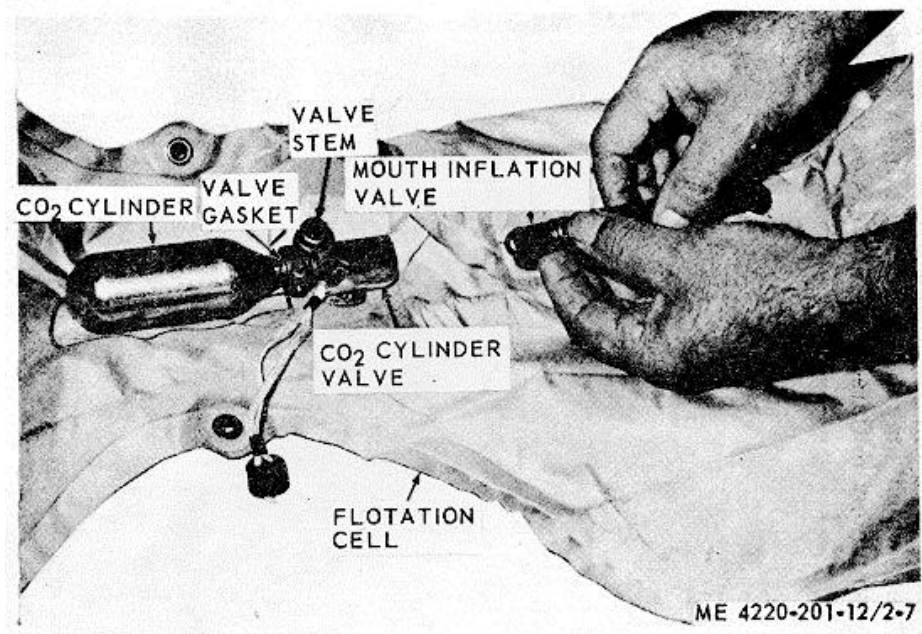
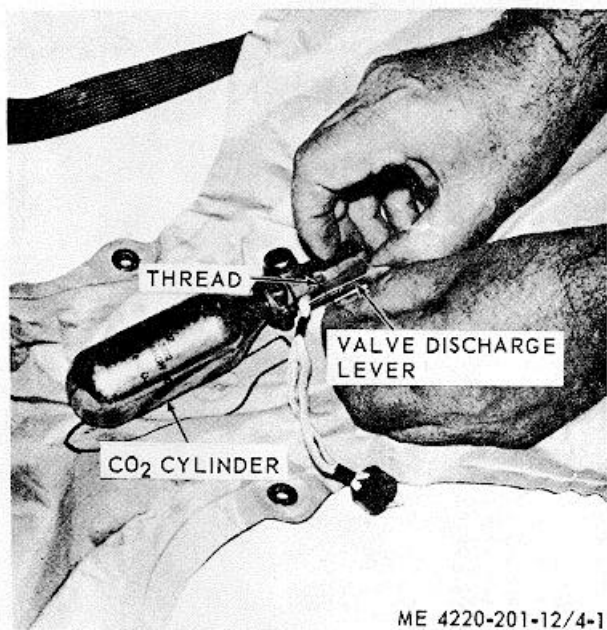

Figure 2-7. Mouth inflation valve.
Figure 4-1. Securing the valve discharge lever to the valve head.
(2) When necessary, additional inflation can be effected by opening the mouth inflation valve (fig. 2-7) and blowing air by mouth.
- (1) Depress the mouth inflation valve (fig. 2-7) and roll the flotation cell toward the mouth inflation valve.
- (2) Apply a vacuum to the depressed mouth inflation valve.
Inspect life preservers in service prior to use and every 90 or 120 days thereafter. IF the preserver flotation cells (fig. 2-7) are four years of age or older inspect the preserver every 90 days; if the cells are less than four years old inspect the preserver every 120 days. At least once yearly, inflate a percentage of preservers undergoing inspection with CO₂ to insure proper functioning of the CO₂ inflation system. Do not inflate the same preserver with CO₂ more than once each year since repeated CO₂ inflation may cause leaks in the cell fabric.
a. Attach the mechanical inflation system to the mouth inflation valve (fig. 2-7). Be sure the CO₂ valve discharge lever (fig. 4-1) is in operating position. Install an empty CO₂ cylinder in the inflator to prevent leakage.
d. Remove the cylinder and deflate the cells after they have passed the inflation test. Check the cylinder valve for proper operation and make sure gaskets (fig. 2-7) are installed. Return the valve discharge lever (fig. 4-1) to the closed position.
(1) For cylinder valve assemblies (fig. 2-7) having no set screw to secure the CO₂ cylinder, apply thread sealant to cylinder threads after they have been engaged from one to two full turns. After applying the sealant, hand-tighten the cylinders and remove all excess sealant.
(2) When a CO₂ cylinder is replaced, secure the valve discharge lever (fig. 4-1) to the valve
(4) Wipe the mouth inflation valve (fig. 2-7) clean, and carefully apply powdered graphite at the valve threads and seat.
(5) Apply powdered graphite to cylinder valves (fig. 2-7) that do not operate freely.
d. Make a safety tie on the valve discharge lever (fig. 4-1) with one turn #3 cord cotton thread, using a surgeon's knot and a locking knot.